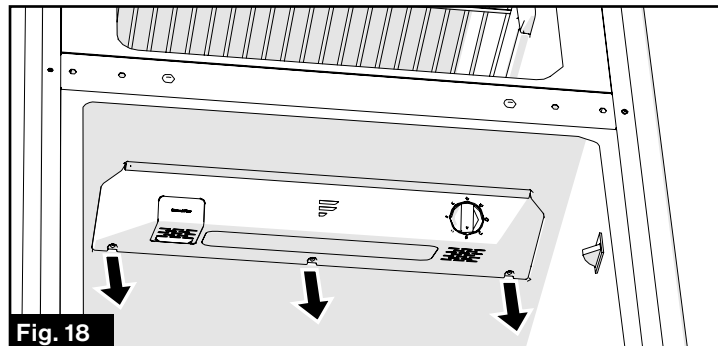

Fig. 18
1. Unscrew the three screws (Fig. 18)